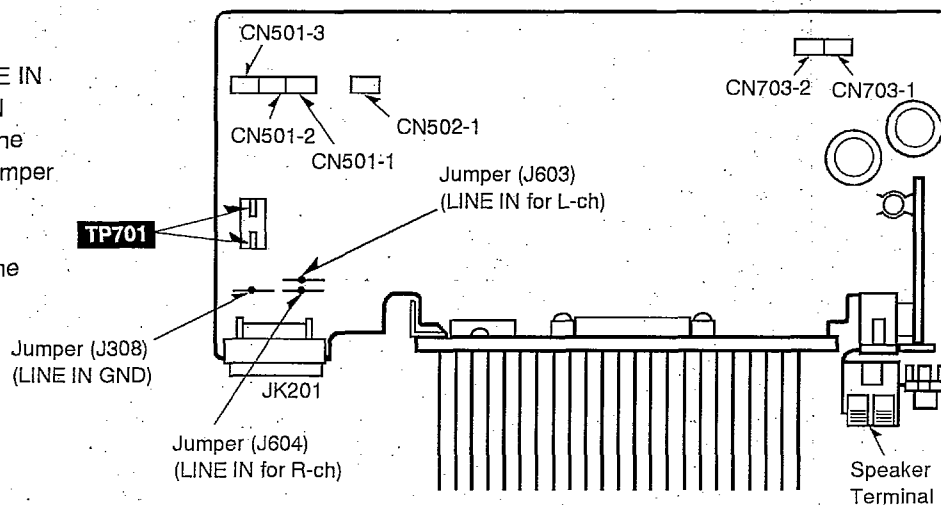

Fig. 1
2. Make test point **TP701** short as shown in Fig. 1.